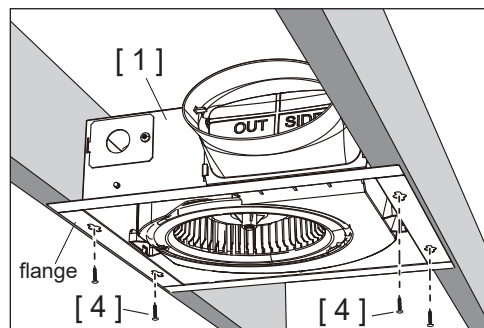

Fig 5
2. Secure the flanges with Long Screws [5] as figure shows. (Fig 5)